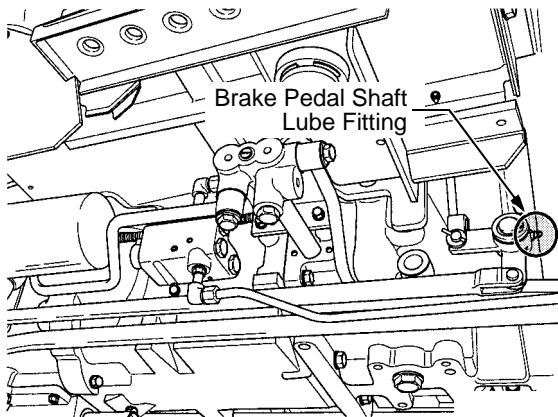

Figure 71
- Brake pedal shaft (both sides). See Figure 71.